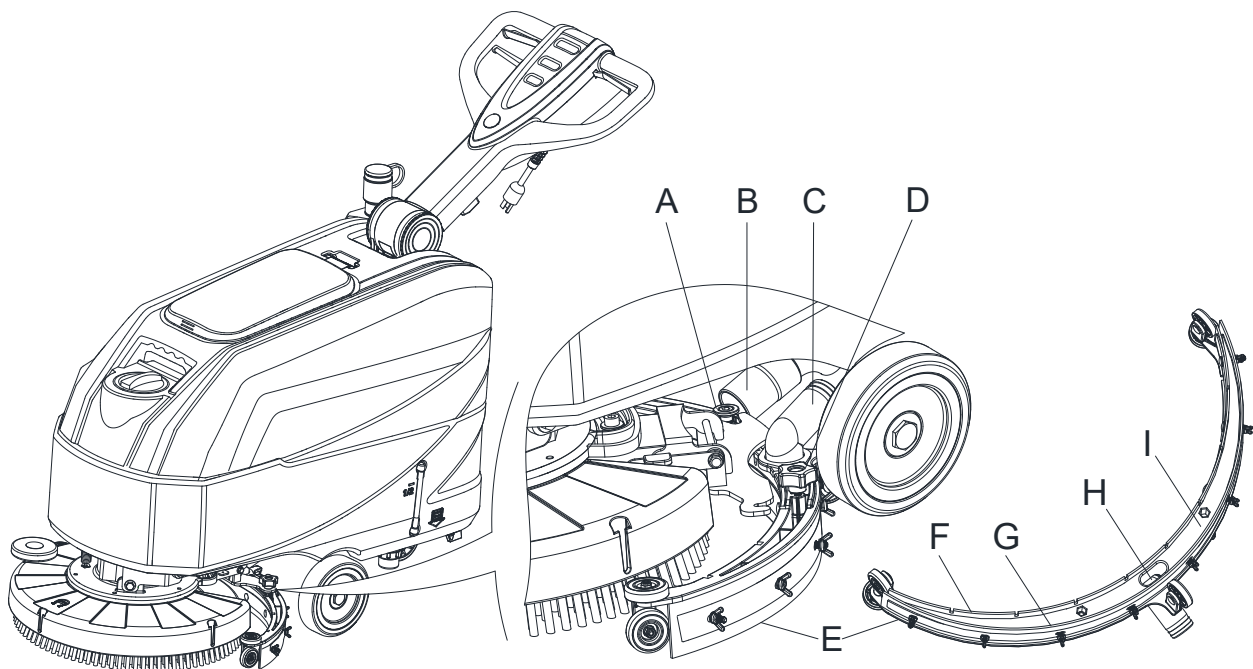
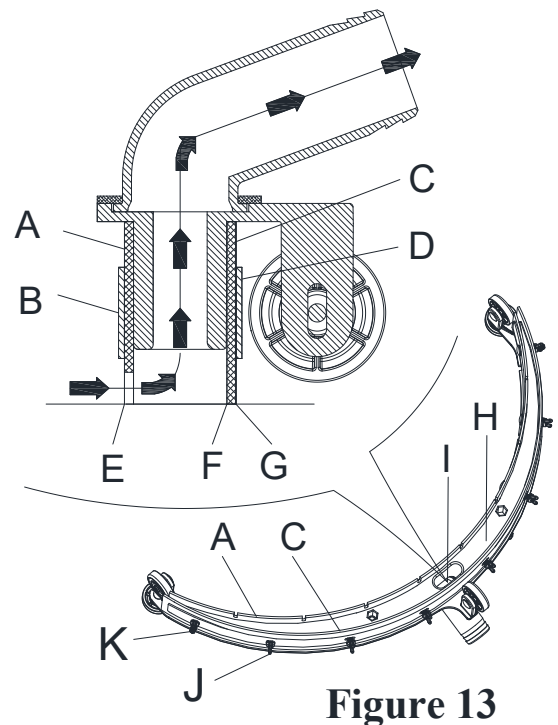

Figure 12
Figure 13
4. Disconnect the vacuum hose (B, Figure 12) from the squeegee connector (C).
5. Loosen the knobs (D) and remove the squeegee (E).
6. Clean the steel or the plastic squeegee (E, Figure 12). Clean the compartments (I) and the hole (H) especially. Check the front blade (F) and the rear blade (G) for integrity, cuts and tears; if necessary replace them (see the procedure in the following paragraph).
2. Check that the edges (E, Figure 13) of the front blade (A) and the edges (F) of the rear blade (C) lay down on the same level, along their length; if necessary adjust their height according to the following procedure:
- Loosen the all wing nuts (J) and adjust the front blade (A) and rear blade (C), then tighten the all wing nuts.
3. Check the front blade (A) and rear blade (C) for wear, cuts and tears; if necessary replace them according to the following procedure. Check that the front corner (E) or the rear corner (F) is not worn; if necessary, overturn the blade to replace the worn corner with an integral one. If the other corners are worn too, replace the blade according to the following procedure:
- Remove the all wing nuts (J) and the screw (K), remove the retaining strip (B), then replace/overturn the front blade (A). Assemble the blade in the reverse order of disassembly.
- Remove the all wing nuts (J) and the screw (K), remove the retaining strip (D), then replace/overturn the rear blade (C). Assemble the blade in the reverse order of disassembly. After the blade replacement (or overturning), assemble the squeegee as shown in the previous step.
4. Install the squeegee (E, Figure12) and screw down the knobs (D, Figure12), as shown in the previous paragraph.
5. Connect the vacuum hose (B, Figure12) to the squeegee (C, Figure 12).